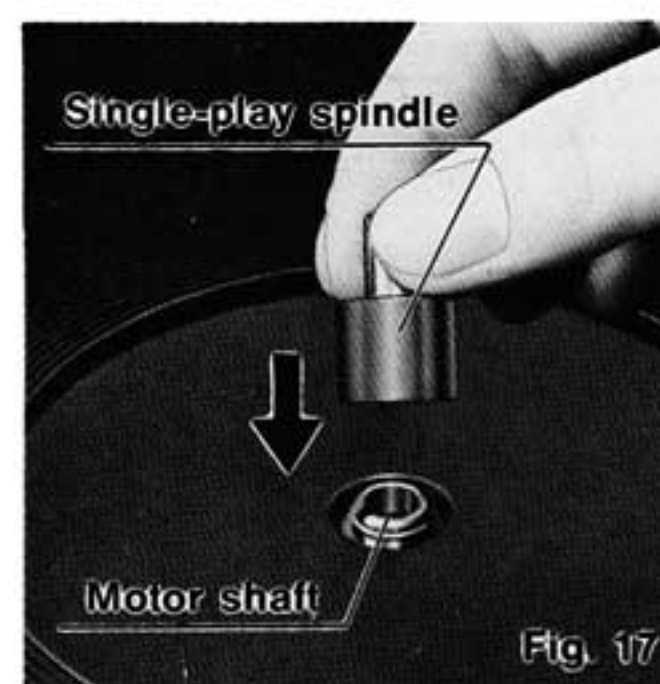

Fig. 17
- ① Install the single-play spindle to the motor shaft. (See Fig. 17)